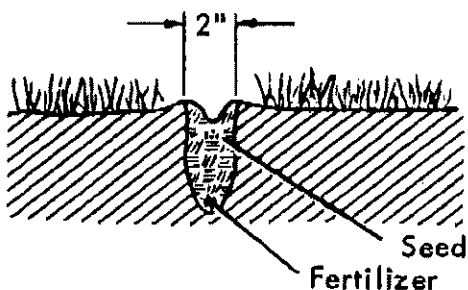

FIG. 3 Using No Spreader or Seal
- FIG. 3** In FIG. 3 the soil is shown after using neither spreader wings nor seal. This arrangement is good for planting in loose or sandy soil or planting on a prepared seedbed. It is also good for applying fertilizer.